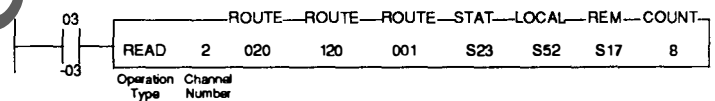

Figure 6-9 - Example READ Instruction.
Communication operations are displayed as horizontal boxes preceded by at least one input condition. See Figure 6-9 for an example. These operations are transitional, meaning that the input condition must experience an open to closed transition before the message is sent.
As shown in Figure 6-9, a route number consists of three digits — the first indicates which of two ports on the NIM (Network Interface Module) the processor or remote CM is connected to, and the last two digits indicate the number of the NIM set by the thumb wheel switches on the NIM module. The first digit can be (1) or (0) (two ports on a NIM) and the last two digits can range from 00-99 (100 possible devices in one network). For the processor to communicate with a remote CM in this example, the routing statements 020, 120 and 001 would have to be contained in the communication rung (in the order shown) of the local processor.
An example of a READ operation is shown in Figure 6-9. READ operations transfer data from a CM to the local processor.
Circuit Operation (Refer to Figure 6-9):
5. The possible number of positions in each line of the contact matrix controlling a READ operation is reduced by the number of statements used inside the READ box. In Figure 6-9, the maximum size the contact matrix could be is 4 x 7 (28 contacts).